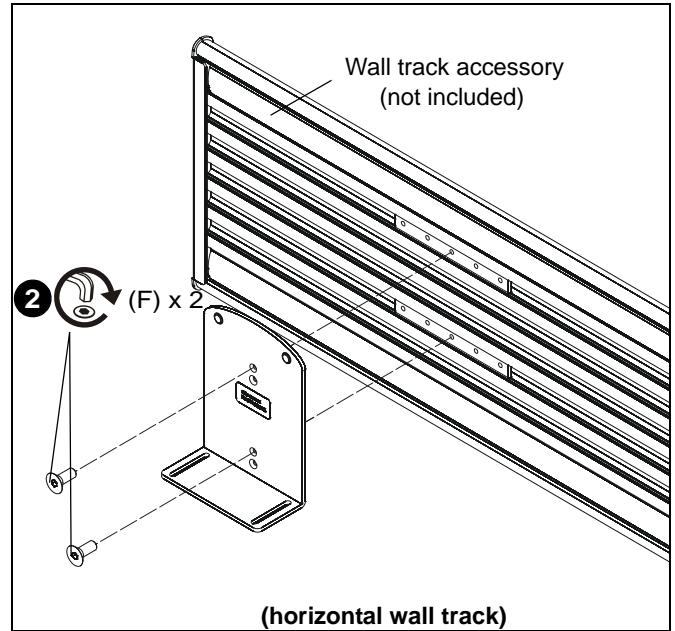

Figure 8
2. Install two #10-24 x 1/2" flat head cap screw (F) through upper holes on CPU wall mount plate (A) into holes on wall track accessory brackets. (See Figures 8 and 9)